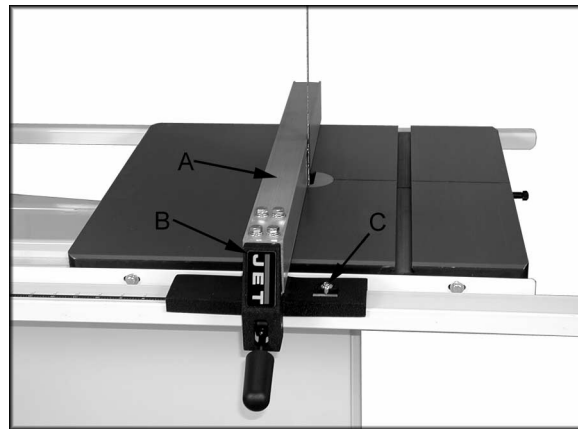

Figure 10
1. Attach the fence (A, Fig. 10) to the fence body (B, Fig. 10) with four 5/16" x 3/4" hex cap bolts, four 5/16" lock washers, and four 5/16" flat washers.
6. Move the fence assembly so that it aligns parallel to the blade, and lock the fence by pushing the lock handle down, Figure 10.
8. Check to see that the pointer (C, Fig. 10) is aligned with the zero mark on the guide rail. If adjustment is necessary loosen the screw that holds the pointer in place and line up to the zero mark. Tighten the screw.